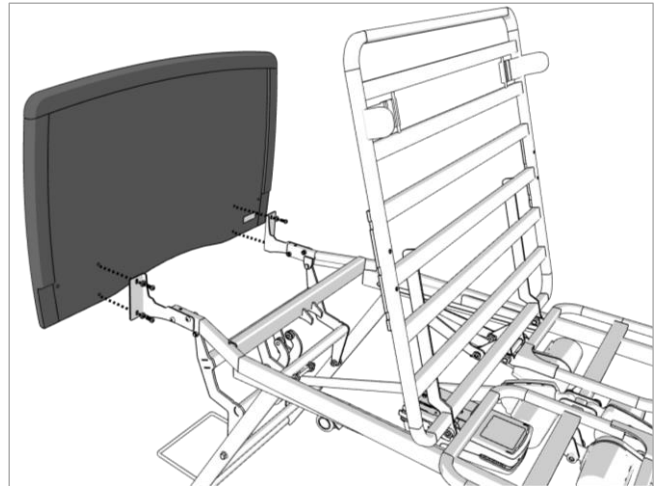

Figure 8.7 – Headboard Shown is Scandi. Fitment may vary slightly depending on specification.
5. Position the headboard onto the fixing brackets as shown in Figure 8.7.